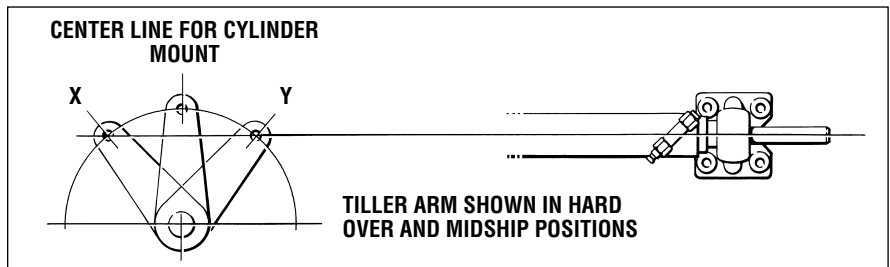

Figure 6.
1. To achieve MAXIMUM cylinder performance it is suggested that an imaginary line is drawn through the tiller arm hole at both hard over positions (see figure 6), this will create the “cylinder center line”. With the tiller arm at hard over positions, angle X and Y should be the same.